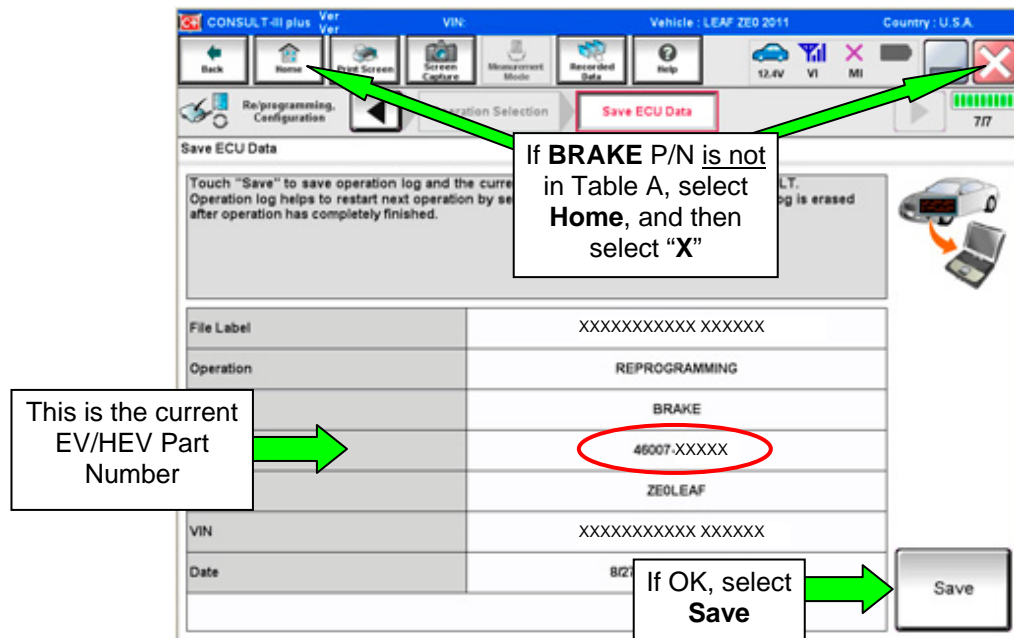

Figure 8
14. Write down the **Part Number** on the vehicle's repair order (see Figure 8).